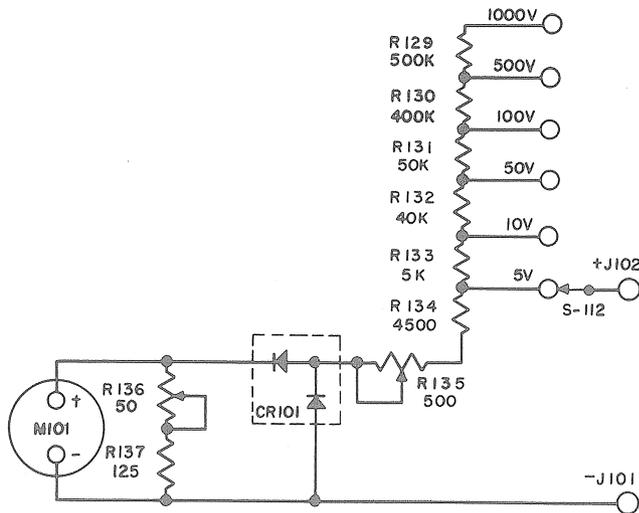
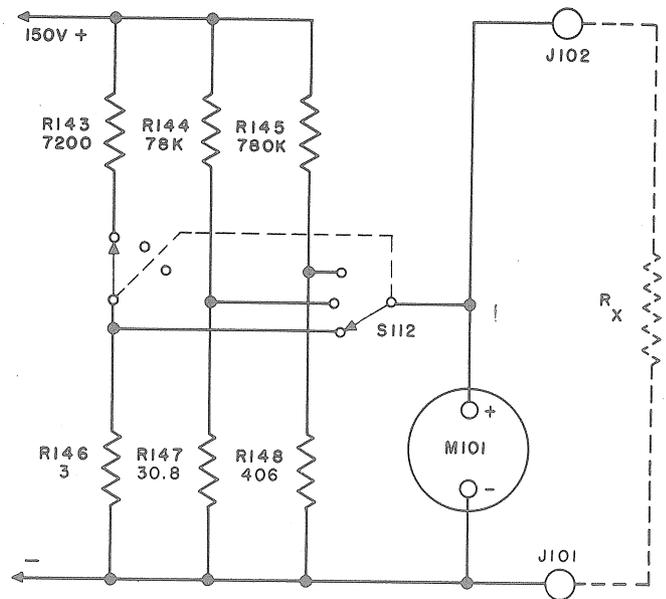

Figure 2-10.—Simplified AC Voltmeter Circuit.
Figure 2-11.—Simplified Low Range Ohmmeter Circuit.
- (2) With the FUNCTION selector switch S-111 in the DC VOLTS position test jacks J-101 and J-102 are connected to the meter circuit through RANGE selector switch S-112 which selects the proper tap in the multiplier resistor series for the voltage to be measured.
- (3) The sensitivity on the dc ranges is 20,000 ohms per volt.
- b. VOLTS AC (See Figure 2-10)
- (1) The circuit for ac voltage measurements consist of the METER M-101, copper oxide rectifier CR-101, and resistors, R-135, R-136 and R-137 as shown in Figure 2-10. R-135 and R-136 are adjusted to compensate for slight variations in rectifiers.
- (2) When the FUNCTION selector switch is set at the AC VOLTS position the potential to be measured is connected to the bridge circuit through the RANGE selector switch S-112 which is used to select the proper tap on the series of multiplier resistors, R-129 through R-134.
- (3) The sensitivity of the multimeter on the ac ranges is 1000 ohms per volt.
c. OHMS (See Figures 2-11 and 2-12)
- (1) The low ranges: 3, 30 and 300 OHMS AT CENTER SCALE.
- (a) The circuit established when the FUNCTION selector is set for OHMS and the RANGE selector is in one of the three low resistance positions is shown in Figure 2-11.